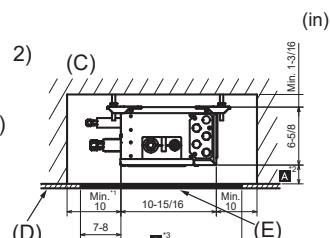
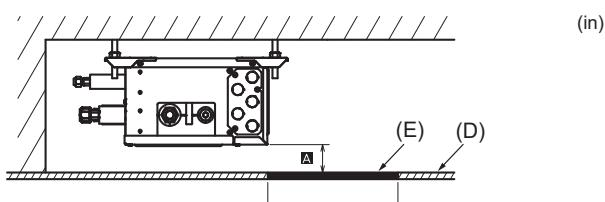

Fig. 4-8
Fig. 4-9
2) Side View (Fig. 4-8, Fig. 4-9)
In the case of “□ 17-3/4 in (450 mm)”, prepare a maintenance hole at a PCB side (as it is shown in Fig. 4-9), and “Min. 11-13/16 in (300 mm)” is needed as distance A.